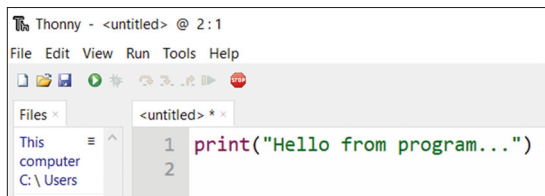

Figure 2.6: Write the program on the upper part of the screen.
- Enter the program statements at the upper part of the screen as shown in Figure 2.6.